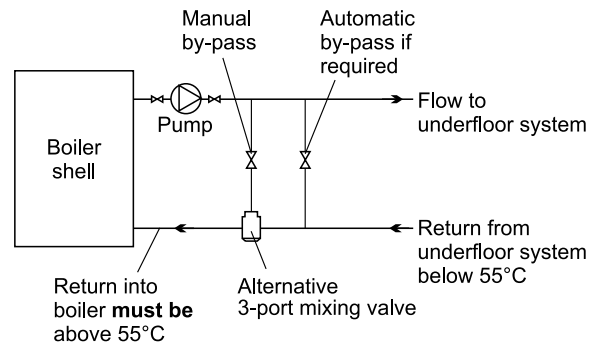

Fig. 15 - Underfloor system
3.13.4 Underfloor heating system - (See Fig. 15)